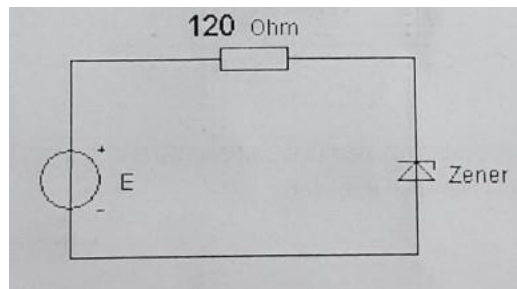

Figure 4.4
- a) Record the measured value of resistance R. Construct the circuit of fig.4.4. Initially set DC supply to 0V.